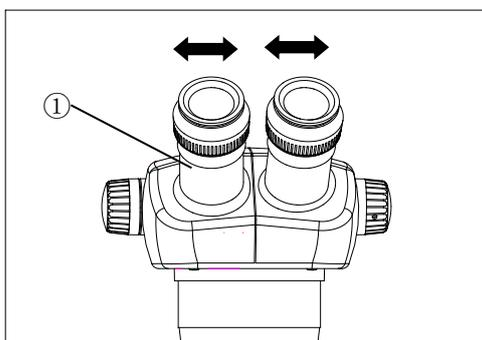

Fig.7
3.1.1 Adjusting interpupillary distance (Fig.7)
Looking through the eyepieces, hold the left and right side of the binocular assembly ① and adjust the eyepieces by the direction shown in Fig.7 until the left and right fields of view coincide completely.